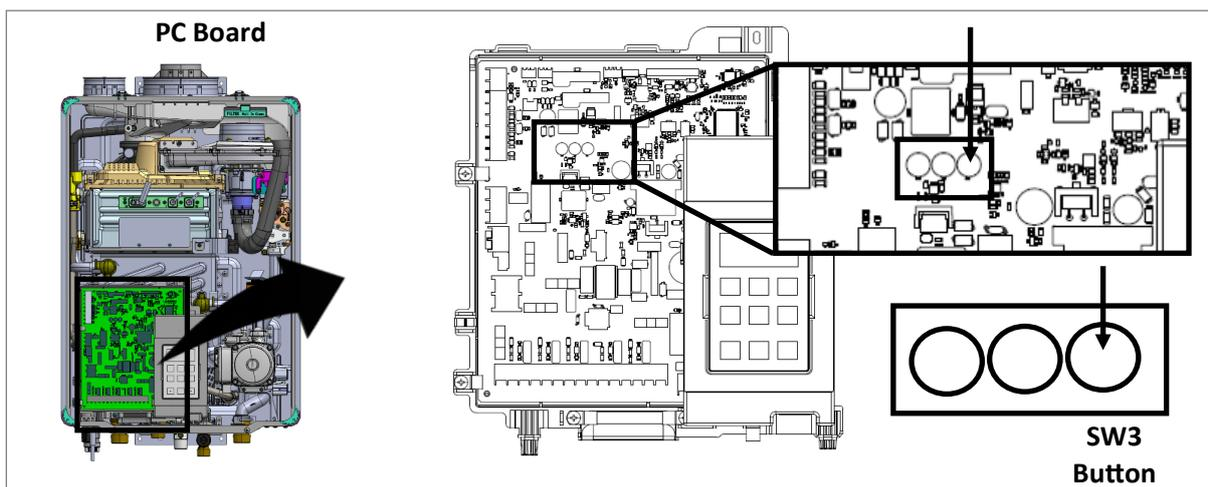
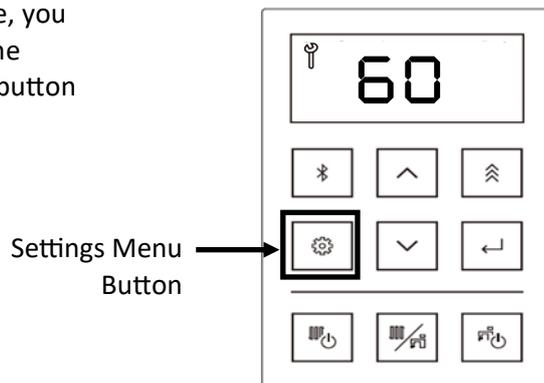

Figure 147
Figure 149
11. Press the SW3 button on the PC Board (Figure 147).
16. Display shows "60" (Figure 149) which indicates the remaining flush time in minutes. The number decreases by 1 every minute. For some reasons, flushing needs to be paused, stop the pump. The number on the display does not decrease while the unit does not detect water flow. When the pump resumes operation, the remaining flush time resumes decreasing as well.
Note: If you need to cancel this procedure, you may press the Settings Menu button on the controller (Figure 149), or press the SW3 button on the PC Board (Figure 147).